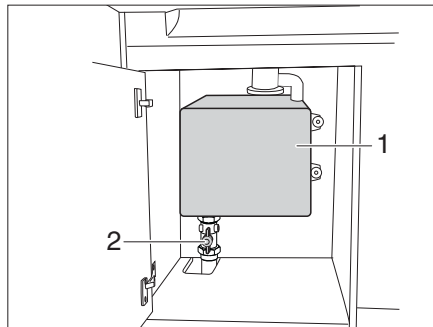

Fig. 147 Interior waste water tank
- Open the spherical valve (Fig. 147,2) under the waste water tank (Fig. 147,1). The waste water is drained into the waste water piping of the caravan.